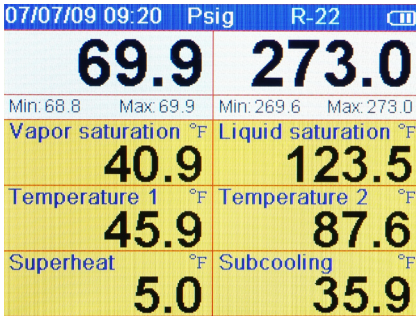

Figure 3-3. 3rd System Analyzer Display
- The third display (see Figure 3-3) is the same as the first except for the exclusion of the XY Time-Pressure charting.